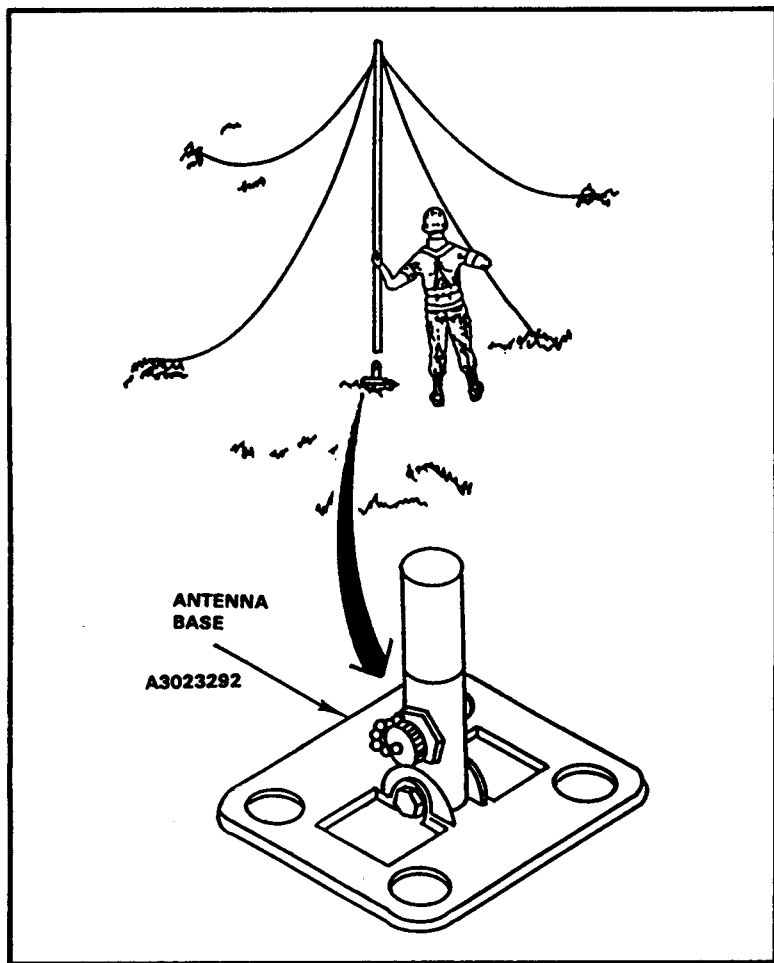

Figure 3-19. AS-2259/GR antenna top mast assembly installation.
- a. Open antenna pack. Remove antenna base (Figure 3-19) and place it on the ground.
- b. Remove top mast assembly (Figure 3-19) and install it on the antenna base.